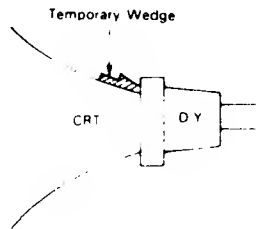

FIGURE 5
4. Move the two Purity Magnets and bring the Magenta belt to the mechanical center of the screen (See Fig. 5) The vertical center position should be set VRS to $-5/64"$ (-2 mm) as shown in Fig. 6.
10. Insert the temporary wedge as shown in Fig. 5 and adjust the angle of Deflection Yoke.